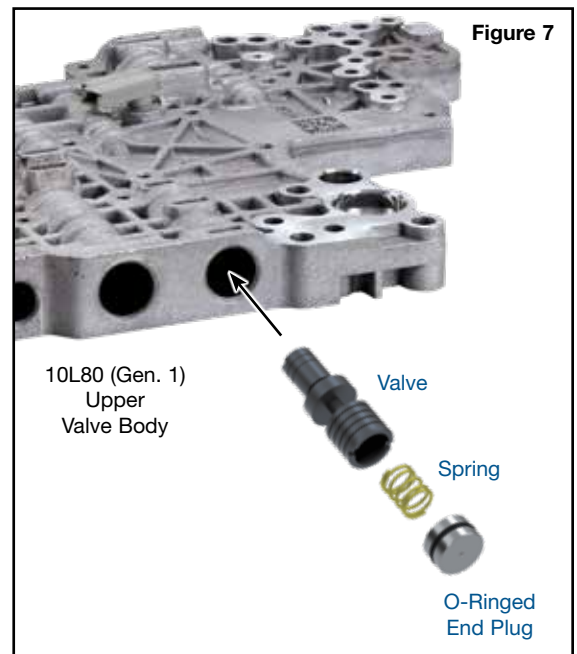

Figure 7
3. Replace Main Pressure Regulator Valve (**Figure 7**)